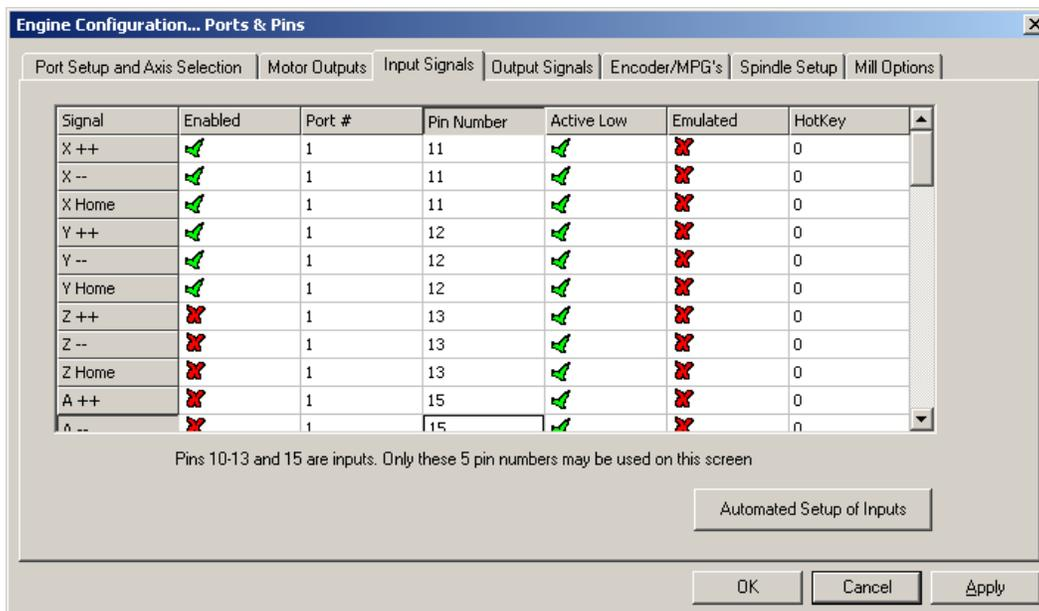

FIGURE 36 INPUT SIGNALS
6. Click on the **Input Signals** tab (See Figure 36).
7. Enable your limit and home switches by clicking the red “X” by the signal. The input is enabled when there is a green check mark. X++ is the forward limit, X— is the backwards limit, and X Home is the homing switch (Figure 36).